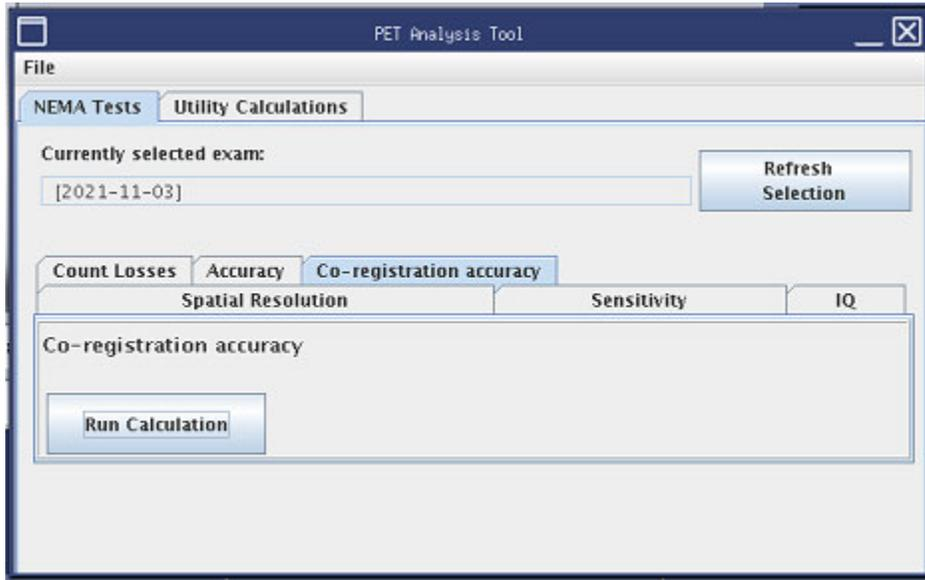

Figure 7.4: PET Analysis Tool - PET-CT co-registration tab selected
4. Click *NEMA ANALYSIS TOOL* to open the PET Analysis Tool panel (Figure 7.4).
9. Refer to Figure 7.4. Click *RUN CALCULATION*.